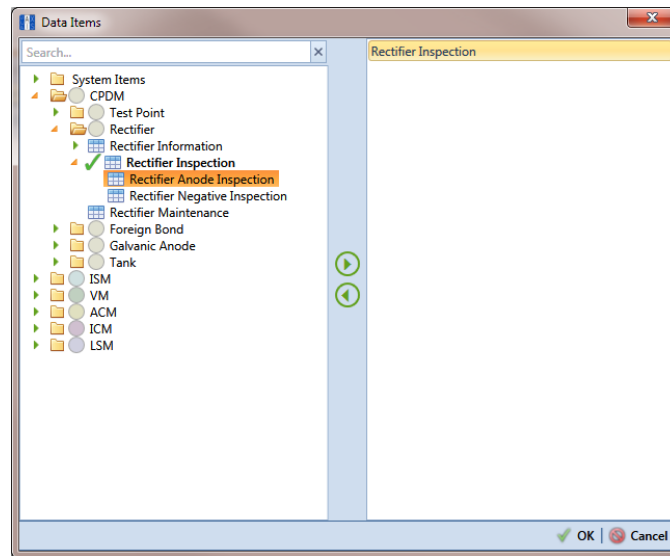

Figure 10-7. Data Items
- 8 Choose the data item(s) you want to import in PCS Axis. Click  **Add Data Item** to open the *Data Items* window and then complete the following steps (Figure 10-7):
- a Open the folder(s) containing the data item(s) you want to import. Repeat this step as needed for other folders. For example, the folders *CPDM* and *Rectifier* are selected in the following figure (Figure 10-7).